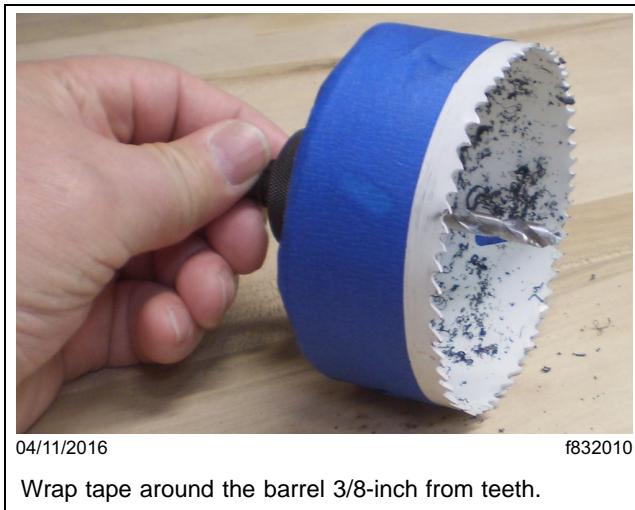

Fig. 4, Preparing the Hole Saw
6. Prepare a 4-inch hole saw by wrapping several layers of tape around the barrel at 3/8-inch from the teeth, to act as a stop-guide reference. See **Fig. 4**.